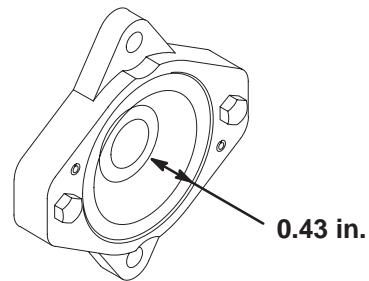

Figure 11
1. First, assemble a reel blade (Fig. 11).
3. Position the reel shaft assembly so that the end of the shaft is 0.43 in. inward from the outside surface of the bearing housing (Fig. 11).